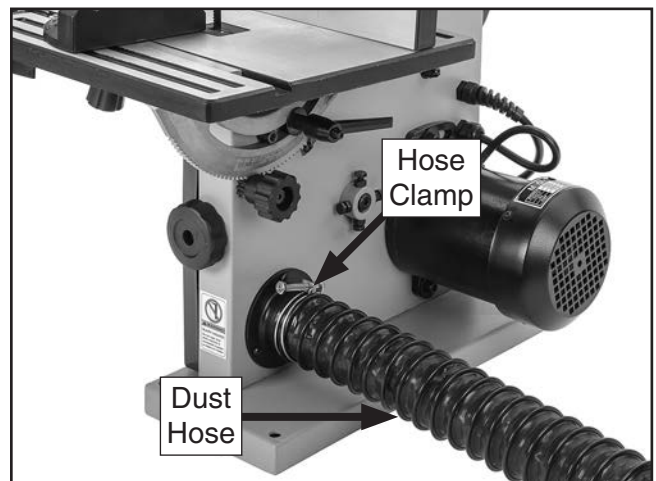

Figure 21. Example of 2" dust hose attached to dust port.
1. Fit dust hose over 2" dust port, as shown in **Figure 21**, and secure it in place with a hose clamp.